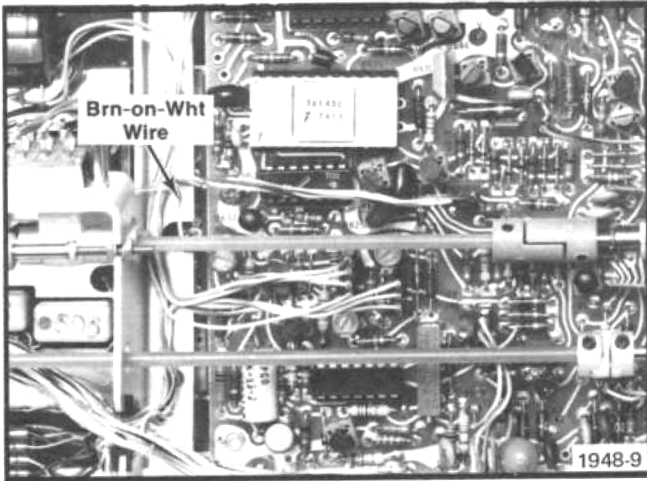

Fig. 5-6. Partial view of Output board showing the  $V_c$  input wire and the  $V_c$  output pin connector location.
e. Disconnect the 7A13 brown-on-white wire located on the Output board (see Fig. 5-6). This wire disconnects the Vc supply located on the Output board from the Vc input circuit on the Attenuator board but does not disconnect the Vc supply from the Vc OUT 0-10 V jack.